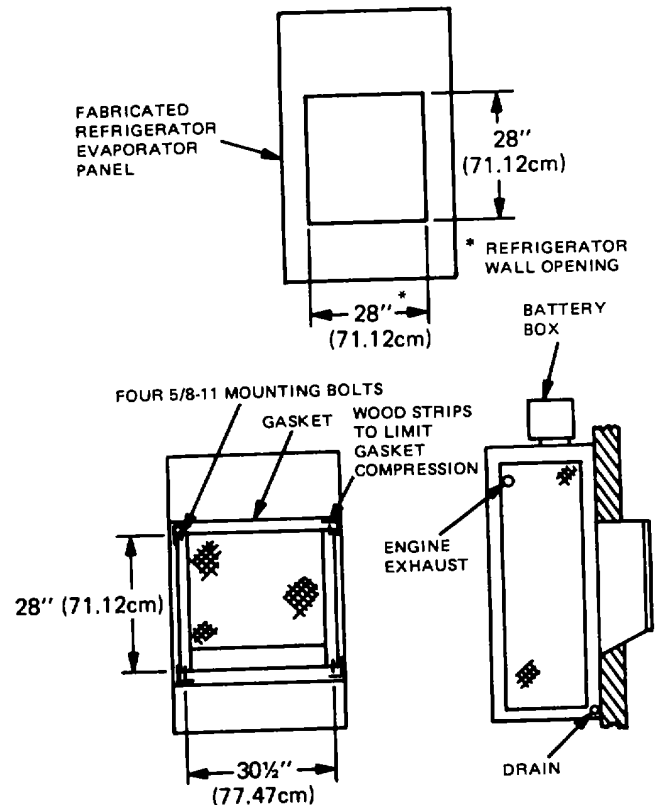

Figure 4-1A. Installation Diagram
(2) Outdoor Installation. Installation consists of positioning the unit in the refrigerator wall and securing the unit with four mounting studs in the unit and four angles (figure 4-1A). Tighten unit to maximum limit of gasket compression provided by wood limit strips.
(3) Indoor Installation. Same as outdoor.